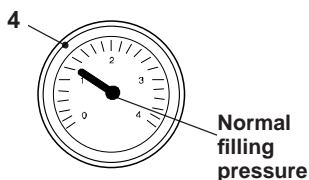

Fig. 2.2
Ensure that the c.h. circuit is regularly filled with water (even if the boiler is only used for d.h.w. supply) checking that the pressure indicated on pressure gauge 4 is not lower than that shown in Fig. 2.2.
If the pressure reading on the pressure gauge is below that shown in Fig. 2.2, then the system will require topping up. A filling loop is normally provided by the Installer for this purpose.
- Open the valves of the filling loop and watch the gauge until it reaches normal filling pressure as shown in Fig. 2.2.